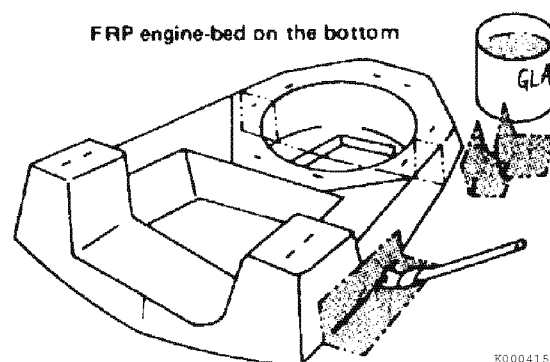

Figure 16
8. Secure the engine bed to the hull bottom using fiberglass fabric and resin (Figure 16).